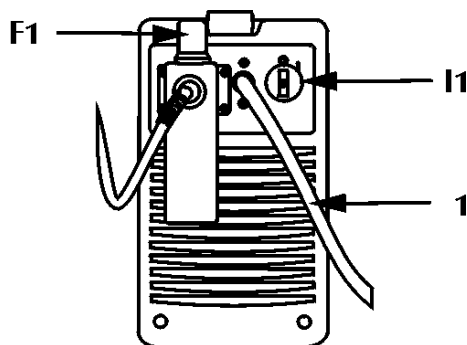

Fig. 2
Comes on with the start switch (Fig.2) "I1" in position "I" and indicates that the plant is on and there is voltage.
2.1.2 Rear control panel (Fig. 2)
2. Connect up the compressed air supply with a 1/4 inch to the air inlet P1 in the filter unit F1 (Fig.2). The pressure must ensure at least 5 bars with a flow rate of at least 180 litres a minute.
If operating faults occur in the generator it will be inhibited until normal operating conditions are restored. Press the gas test pushbutton (T2 in Fig 1) in order to remove residual impurities from the compressed air circuit, then lift and turn the knob to adjust the pressure (F1 Fig.2) until the display D2 shows a pressure reading of 5 bars (carry out the operation keeping the gas test button pressed down, so as to make the adjustment with air circulating in the piping).